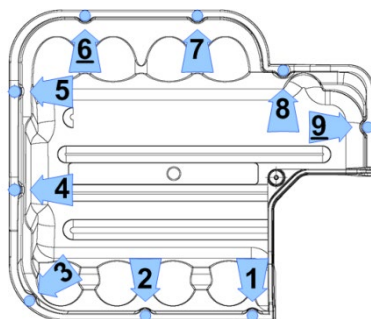

Figure 29 – Top Cover Torque Sequence
36. Place the Top Cover and secure it with the nine (9) M5x15 screws according to the following sequence. Follow the sequence twice. The first time, only fasten screws half way down to allow for adjustments. Torque to 13 in.lb. on the second pass. Refer to Figure 29 (Top Cover Torque Sequence).